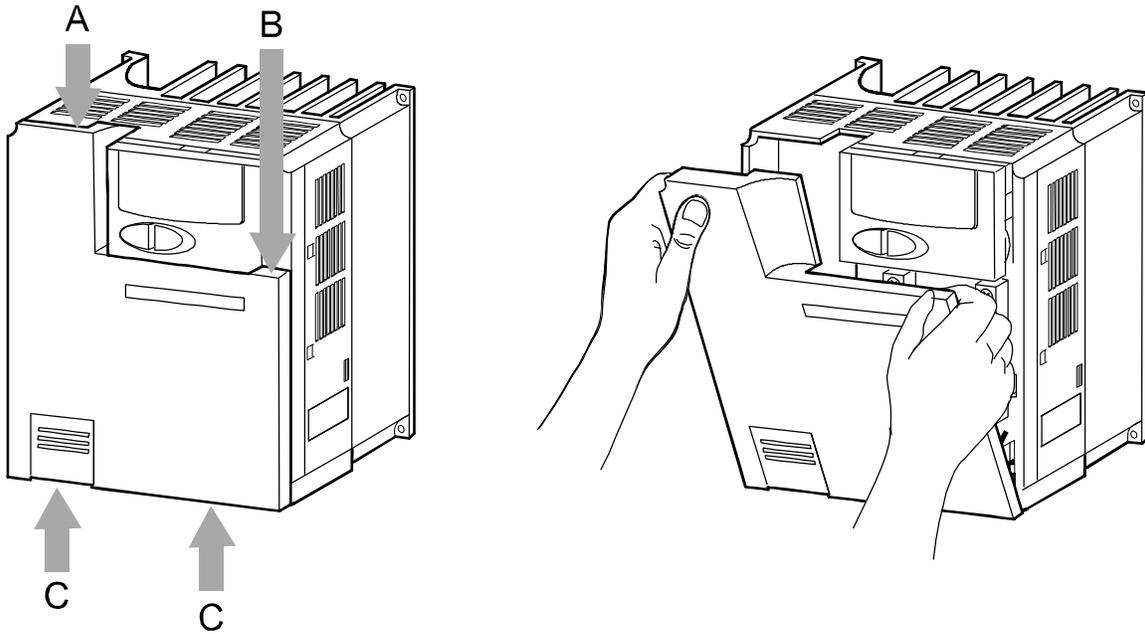
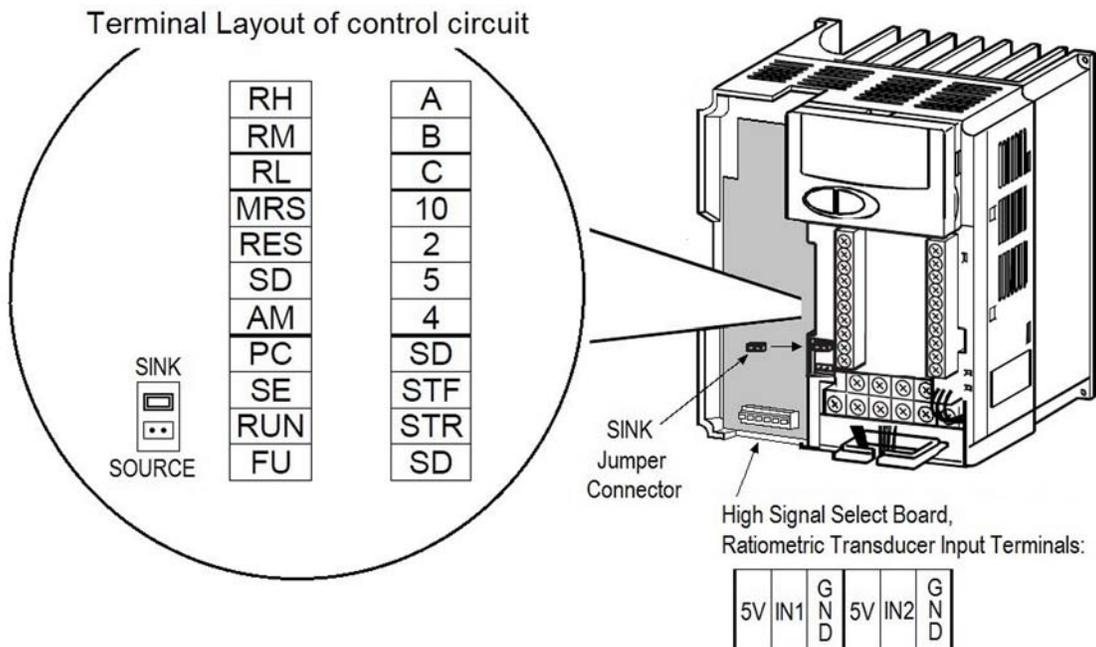

Figure 16: Release the Hooks and Remove the Front Cover
Figure 22: VFD68Dxx Drives Connection Information
1. Push down on the hooks at Position A and Position B and pull it away from the VFD68 drive, using the hooks at Position C as supporting points (Figure 16).
Low-voltage wiring terminals are located underneath the front cover. See Figure 22, Table 24, and Table 25. After you finish making the low-voltage wiring connections, replace the front cover (Figure 16 on page 26).